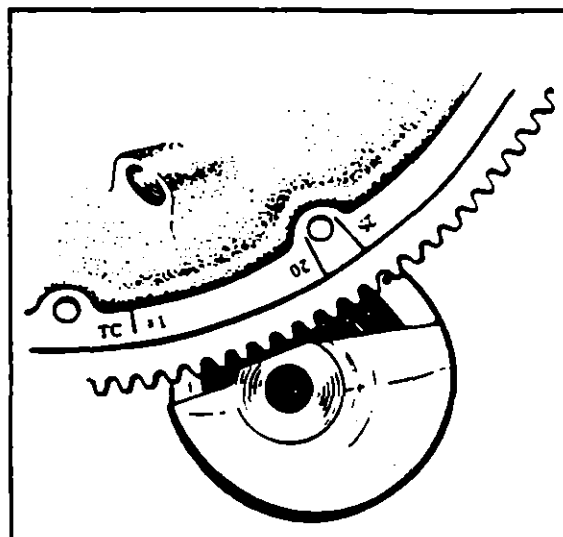

Figure 8-13. Engine Timing Marks
- b. Remove the top spark plug from No. 1 cylinder. Place the thumb of one hand over the spark plug hole and rotate the crankshaft in direction of normal rotation until the compression stroke is reached. The compression stroke is indicated by a positive pressure inside the cylinder tending to lift the thumb off the spark plug hole. In this position, both valves of No. 1 cylinder are closed. Turn the crankshaft opposite to its normal direction of rotation until it is approximately 35 degrees BTC on the compression stroke of No. 1 cylinder. Rotate the crankshaft in its normal direction of rotation until the 25 degrees mark on the back of the starter gear and the crankcase parting flange are aligned, or the marks on the front of the starter ring gear and the drilled hole in the starter housing align. Refer to Figure 8-13.
- j. Turn the crankshaft very slowly in direction of normal rotation until the timing mark on the front face of the ring gear aligns with the drilled hole in the starter, as shown in Figure 8-13, or the timing mark on the back of the ring gear aligns with the crankcase parting surface. At this point, the light should go out.